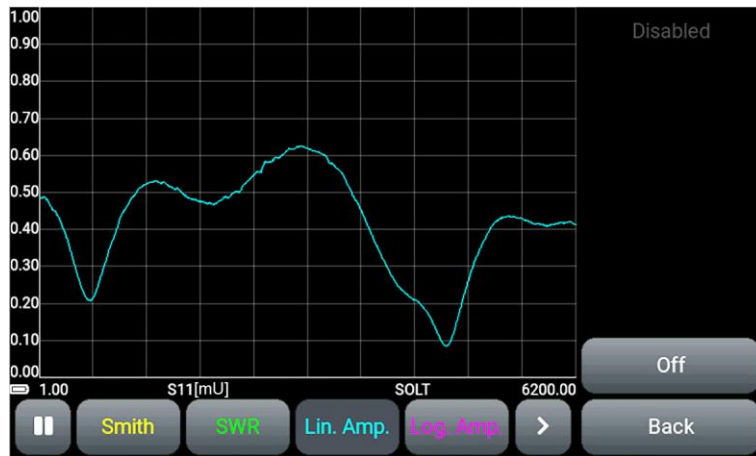

Figure 9.19 - Setting the marker
9.11.1. Select a plot. To the right of the plot there are four marked fields for displaying markers. After clicking on one of the fields, a menu will appear, as in Figure 9.19.